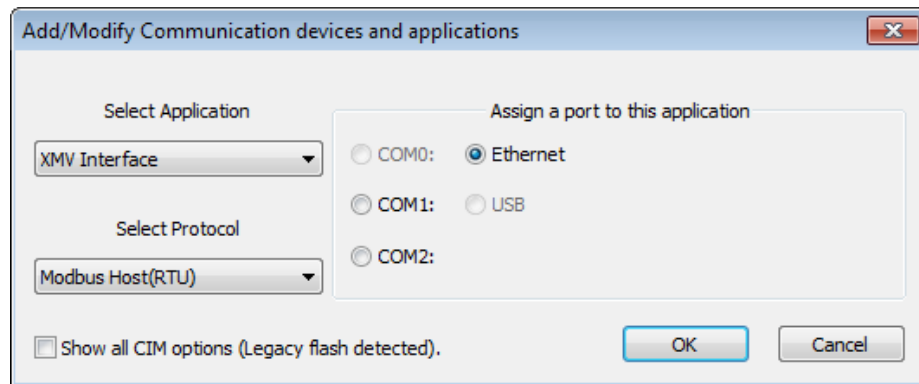

Figure 93: Adding communication application and protocol to Ethernet
2. Click **Add New Device Application**. The Add/Modify Communication devices and applications box displays (Figure 93).